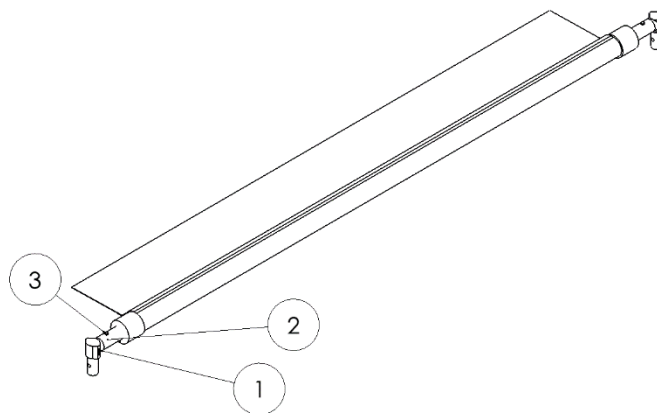

Figure 4.8
Remove the 90-degree corners (1) from the side arms and place them on each end of the cross tube (2) so that they point in the same direction and secure them to the cross-tube with 1/4" x 2-1/4" hex bolts and hex nuts (3) as shown in Figure 4.8.